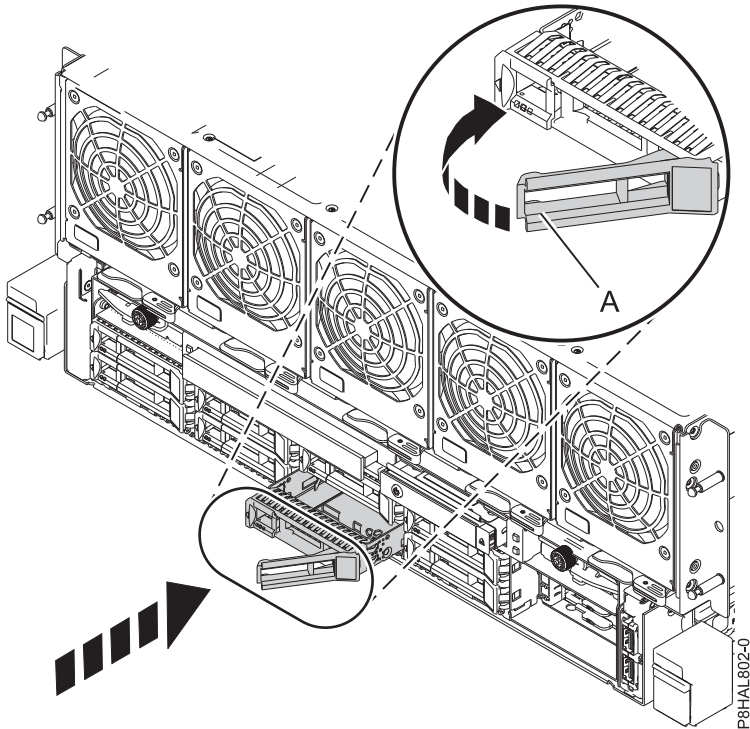

Figure 19. Replacing a disk drive in an 8408-44E or 8408-E8E system
3. Unlock the drive bay handle (A) by pressing it and pulling it out toward you. If the handle is not all the way out, the drive does not slide into the system.
5. Slide the drive all the way into the system, and push the drive bay handle (A) in until it locks, as shown in Figure 19 on page 30.